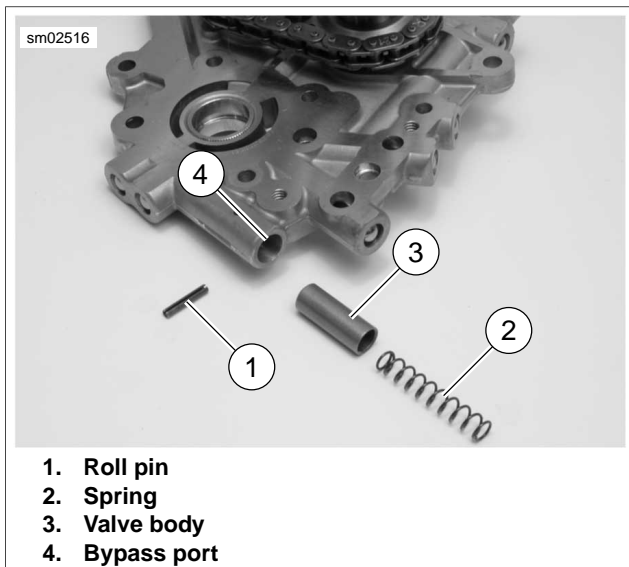

Figure 3-119. Oil Pressure Relief Valve Assembly
3. See Figure 3-119. Using a 1/8 in. punch with a small hammer, carefully tap roll pin (1) from pin hole in cam support plate. Discard roll pin.
4. Remove spring (2) and valve body (3) from bypass port.
2. See Figure 3-119. Lubricate valve body (3) with clean H-D 20W50 engine oil. Slide valve body into bypass port of cam support plate with the open side facing outward.
3. Slide spring (2) into bypass port until seated in open side of valve body.
4. Start **new** roll pin (1) into hole in cam support plate. Compress spring in port using the blade of a small screwdriver.